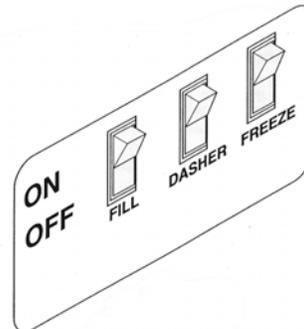

Fig. 1
1. Set the "**FILL**" and "**FREEZE**" switches to the "**OFF**" position (Fig. 1).